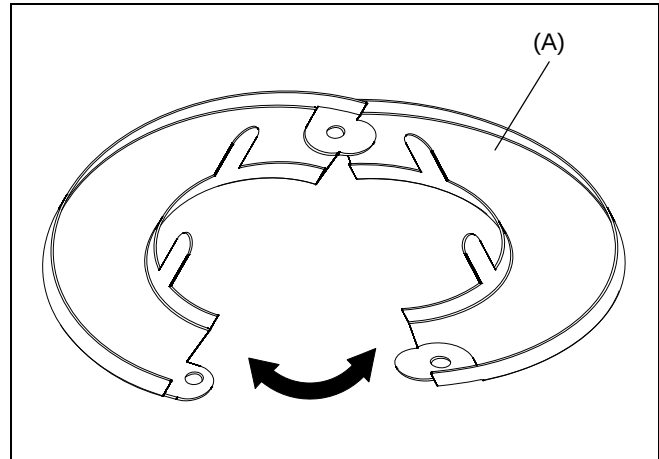

Figure 1
2. Spread open the CMA643 (A). (See Figure 1)